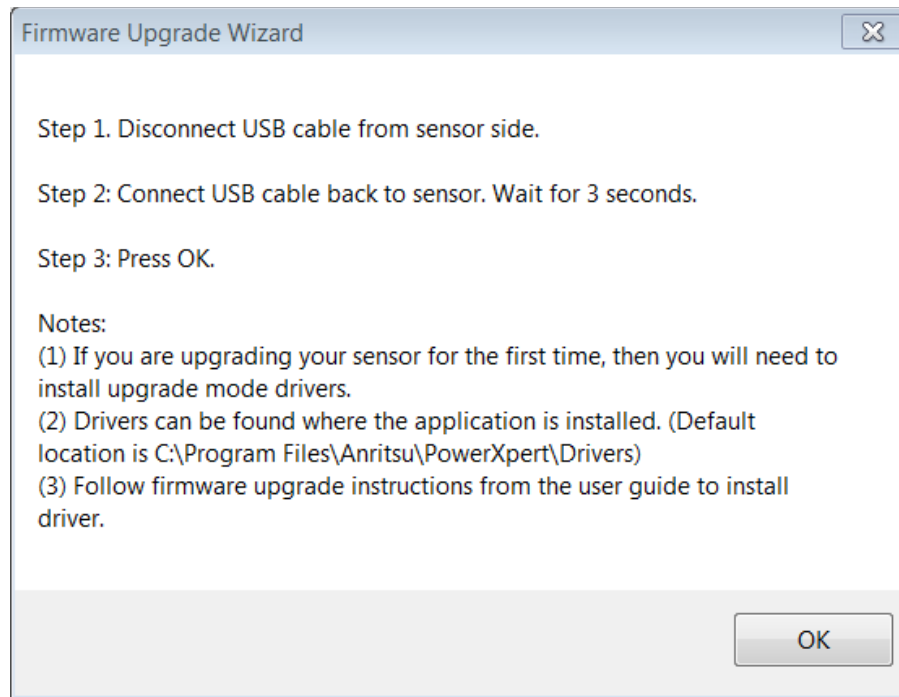

Figure B-5. Firmware Installation Dialog Screen 3
3. Follow the on-screen instructions and refer to the following detailed instructions as needed. After going through some preliminary screens, the instructions shown in Figure B-5 appear